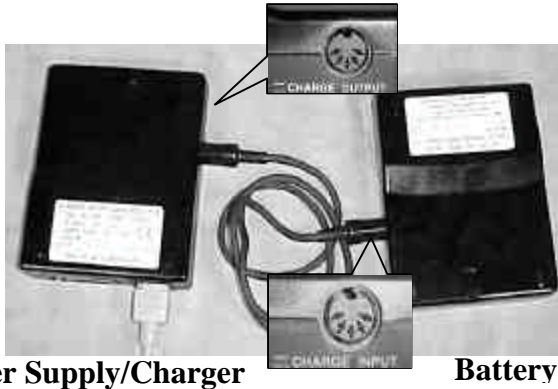

Figure 26. Connecting the Battery for Charging
1. Referring to Figure 26, connect the charging cord between the "charge output" on the PS-M1 (PS-65) power supply module and the "charge input" on the BU-M1 (BU-65) battery module.